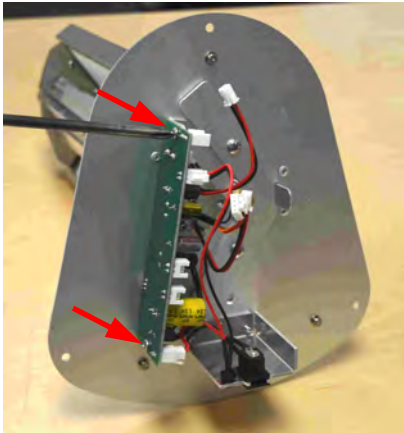

Figure 14
Use a Phillips screwdriver to unscrew two (2) screws holding electronic board to brackets . Refer to **Figure 14**